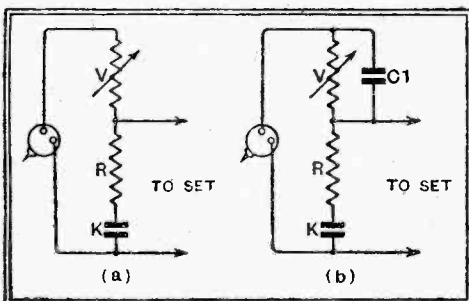
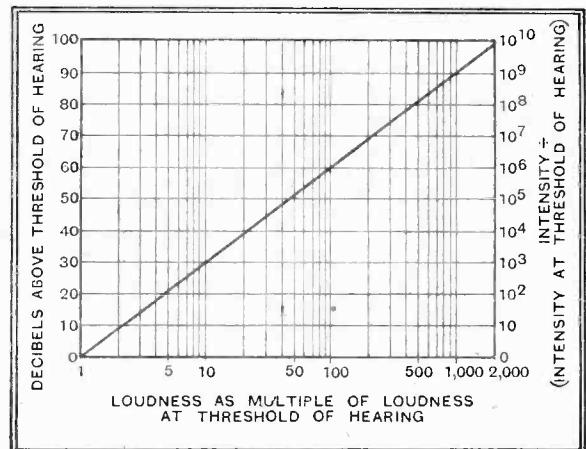

Fig. 3.—Methods of compensated volume control particularly suitable for use with pick-ups in gramophone reproduction.
Fig. 2.—The curve obtained from the table at the end of the article, covering the whole range of intensities from the threshold of hearing upwards.
Fig. 2.—Curves which show the effect of frequency response produced by changes made in volume. On the right curves are given with different values of condenser C, while on the left is a group of curves to be expected when compensated volume controls, of the type shown in Fig. 3, are employed.
This is shown more fully by the curves of Fig. 2 (right), which also show the effects of decreasing the size of the condenser to 0.05 mfd., thereby increasing still further the retention of the low frequencies at low volume settings. Of course, the best value of condenser will have to be chosen to suit individual requirements, but for those who require a good starting point for experiment the values recommended are those set out in the second column of the table. When experimenting with other values of the condenser C remember that the low frequencies are increased by decreasing the capacity of the condenser. It is usually advisable to decrease the capacity when this method is used to control the volume from a gramophone pick-up on account of the great deficiency of the low frequencies as recorded on the records themselves.
Other convenient methods of achieving a similar result are shown in Fig. 3. These methods are particularly useful when
The schematic arrangement is shown in Fig. 3 (a), and consists of a variable resistance V in series with a fixed resistance R and a condenser K. The pick-up is connected, as shown, to the extreme ends, while the leads to the set embrace only the resistance R and condenser K. To vary the volume only the resistance V is varied, and this may obviously be a
potentiometer in which only two terminals are used, so that it functions merely as a variable resistance. R should have a value of not more than one-tenth of the total resistance of V, while the impedance of K should usually be approximately equal to the value of R at 1,000 cycles. It is clear that, as the resistance V is increased, the volume falls, although at low frequencies it falls less than at the middle and upper frequencies on account of the variation of impedance of the condenser K with frequency. The principle is thus somewhat similar to the previous case, and, as would be expected, the high frequencies can also be retained to an increased extent by shunting the resistance V with a small fixed condenser, preferably of about one-twentieth the capacity of K, Fig. 3 (b). This arrangement, when used with a pick-up, has a rather complex action owing to the variation of load across the pick-up, both for volume variation and frequency difference.
A fairly close calculation can be made and the full line curve (A) in Fig. 2 (left) shows the calculated result expected, in which K is 0.0025 mfd., R is 80,000 ohms, and V is a one megohm variable resistance all in use, i.e., minimum volume, as will often be the case in practice with modern sensitive pick-ups. If a greater range of control of volume is required it is usually best to retain V as one megohm (variable), and alter the values of R and K both in the same proportion; thus, if R is 20,000 ohms and K is 0.01 mfd., a wider range is obtained.
The last example introduces the subject of scales of loudness. Here again physicists have produced a *measure* of loudness which does not agree with our *sensations* of loudness. The method in common use is to compare any sound with a pure note of frequency 1,000 cycles per second which sounds equally loud. Then, if equality of loudness occurs when the 1,000-cycle note is 30 decibels above the threshold of hearing, the loudness of the sound is said to be 30 units; if equality occurs at 60 decibels the loudness is said to be 60 units. But such a scale of loudness is based on scientific measurements of power expressed in watts and does not help us to find the power ratio between two sounds when one seems to our natural judgment to be twice as loud as the other. In fact, as will be shown presently (Fig. 2), when the loudnesses on the physicist's scale are 60 and 30, the loudness ratio on our intuitive scale is 10 to 1. The contrast is between the roar of Piccadilly Circus and the murmur of a quiet suburban street.
Fig. 2 shows the curve obtained from this table. If a sound is raised 30 decibels above the threshold—that is, if its intensity is made 1,000 times as great—the loudness is only tenfold the threshold loudness. Similarly, if the intensity is a million times threshold the loudness is only 100 times threshold. Hence each of us judges loudness by an intuitive or mental scale which is quite different from the scale of actual intensity of the sound.
Fig. 3.—Does the nervous system function on the lines of automatic volume control? Auditory nerve measurements are difficult to obtain, but the above curve, showing the response of the optic nerve of a conger eel to light sensations, indicates that nerve impulses are doubled in frequency when the intensity of light increases eight times.
seems to diminish the brightness to one-half. When such a plate is tested in a photometer it is found to transmit only about one-eighth of the light, so that our mental estimate of brightness ratios agrees fairly well with the scale of loudness ratios shown in Fig. 2. In both cases the *objective* intensity ratio is roughly 8 when the *subjective* intensity ratio is 2.
placed on the nerve, and after amplification to be recorded on a string electrometer. It appears that the effect of an increased stimulus is an increased number of nerve impulses per second. Quantitative results on the auditory nerve are difficult to obtain, but experiments on all other types of nerve show that the frequency of nerve impulses increases more slowly than does the intensity of the applied stimulus. Take, for example, the experiments made by Adrian, at Cambridge, on the optic nerve of the conger eel (Fig. 3). The frequency of the nerve impulse is doubled when the intensity of the light falling on the retina increases from 2.5 to 19 (about 8-fold).